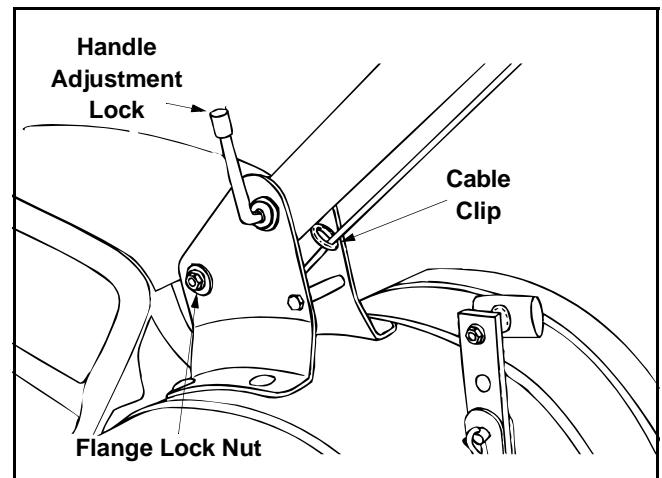

Figure 7
- Route the clutch cable underneath the handle and through the cable clip. Be careful not to bend or kink the cable. See Figure 7.